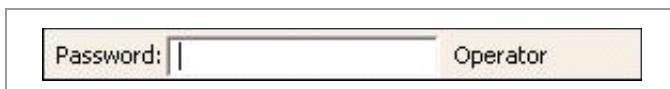

Figure 7 - Login Operator Mode
This application requires the user to login to access most of its functions, as shown in **Figure 7**. Four (4) login levels are supported by Radar Console. This document covers the two (2) first levels (Operator and Administrator).